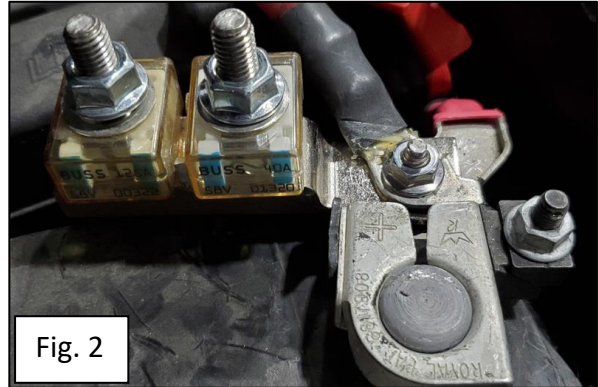

Fig. 2
3. Install the previously removed fuse block on the driver side battery – positive lug with the Ford wiring. (Figure 2)